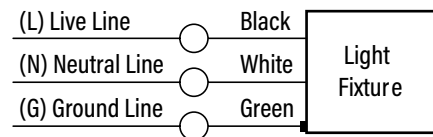

Fig. 1
1. Use the existing hole in the ceiling or open a 1 3/4" hole. (Fig. 1)